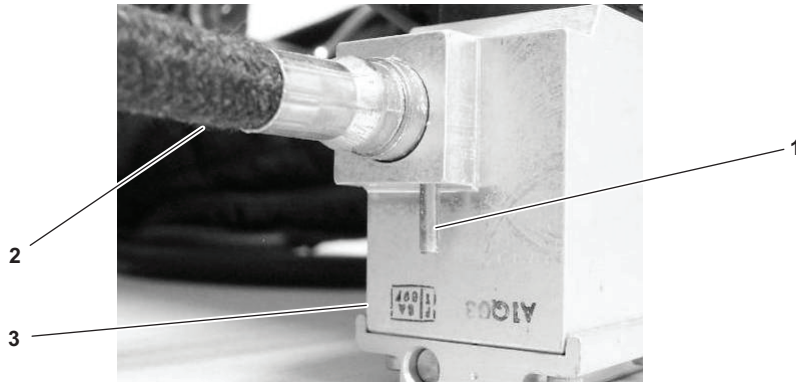
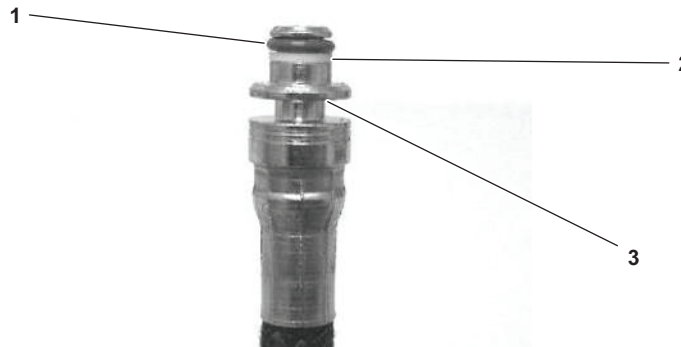

Figure 6-41. RIC/UAC Assembly Removal
Figure 6-42. RIC/UAC Assembly Preformed Packing and Packing Retainer
- (1) Remove the cylinder assembly IAW paragraph 2.3.2.1 step a.
- (2) Lay the backframe and harness assembly on a clean work surface with the cylinder band clamp facing down.
- (3) Using pin punch and hammer, tap out the two roll pins (figure 6-41, item 1) securing the RIC/UAC assembly (figure 6-41, item 2) to the pressure reducer (figure 6-41, item 3).
- (4) Remove the RIC/UAC assembly (figure 6-41, item 2) from the pressure reducer (figure 6-41, item 3).
- (1) Inspect the preformed packing (figure 6-42, item 1) and the packing retainer (figure 6-42, item 2) on the RIC/UAC assembly (figure 6-41, item 2) for nicks, cuts, wear and tear, or foreign debris. If necessary, remove and replace IAW paragraph 6.1.5.
- (2) Inspect the roll pins (figure 6-41, item 1) for cracks, bends, or mushroomed ends. Replace as required.
- (3) Install the RIC/UAC assembly (figure 6-41, item 2) into the pressure reducer (figure 6-41, item 3). Ensure that the RIC/UAC assembly groove (figure 6-42, item 3) aligns with the pinholes and that the pinholes are unobstructed.
- (4) While holding the RIC/UAC assembly (figure 6-41, item 2) firmly in place, insert the roll pins (figure 6-41, item 1) and lightly tap them into place with a hammer until the roll pins are flush with the pressure reducer (figure 6-41, item 3).
- (5) Replace the cylinder assembly IAW paragraph 2.3.2.1 step b.
- (6) Perform a leak check IAW paragraph 6.5.2.